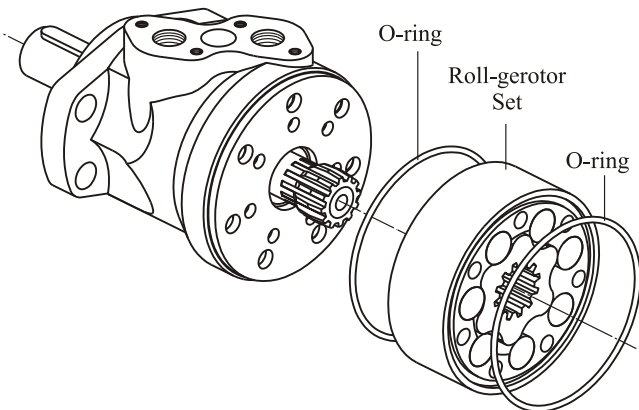

Fig.2
Remove O-rings from roll-gerotor set grooves (see Figure 2).
17. Lubricate O-rings (2 pcs.) and place them in seal grooves of both stator sides. (see Fig.2).